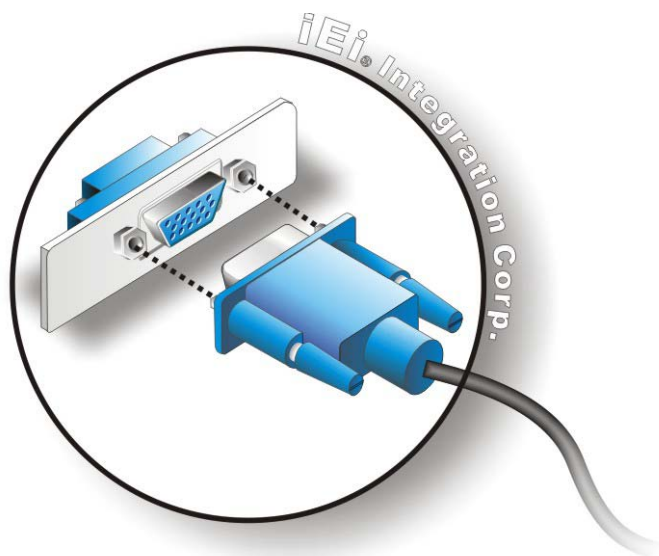

Figure 3-23: VGA Connector
- Step 3: Insert the VGA connector** Once the connectors are properly aligned with, insert the male connector from the VGA screen into the female connector on the TANK-860-HM86 Series. See **Figure 3-23**.